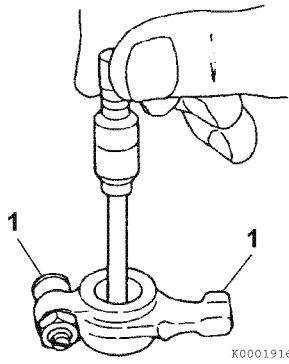

**Figure 6-51**
3. Use a feeler gauge to measure the gap (**Figure 6-51**). See *Push Rod* on page 6-7 for the service limit.